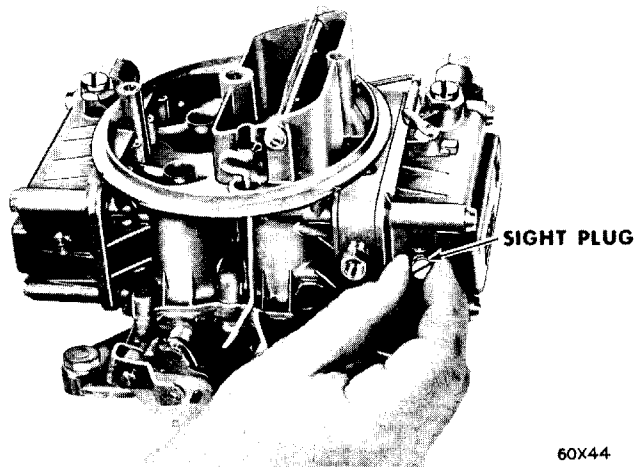

Fig. 23—Removing or Installing Sight Plug
(1) To check the fuel level in the bowl, start the engine then remove the sight plug from the primary bowl, as shown in Figure 23.
(2) Using a wrench and screwdriver, turn the adjusting nut either up or down until the fuel just dribbles